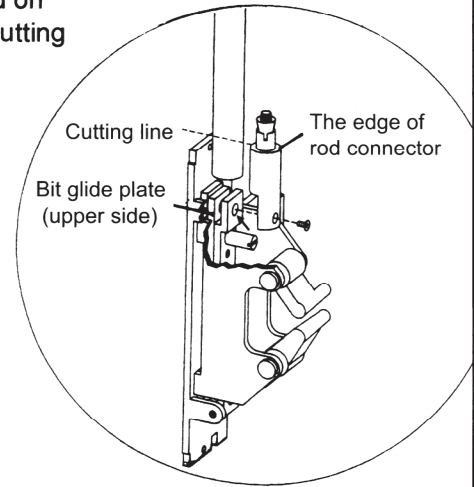

Figure 10
3. Measure and cut the length of top rod. The length of top rod is measured to the edge of rod connector which will be fastened on arrow mark position of chassis assembly in next step. Mark cutting line then cut the excess portion. (See Figure 10.)